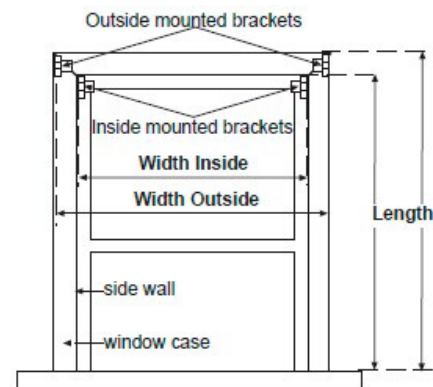
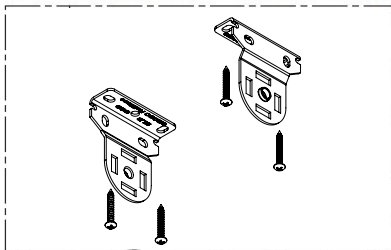

Figure 4. Measurements on a window
Figure 6. Install Brackets
Step 1. See Figure 4.
Step 3. Mount the brackets to the window casing according to the marked locations in **Figure 4** (see page 1). **Figure 6** shows the proper bracket placement options. The left and right Skyline brackets are identical so the motor can be mounted on the left or the right side.